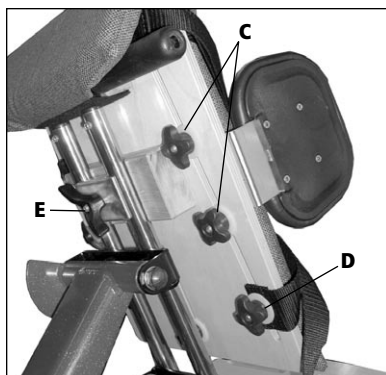

Figure 2
- Loosen knobs (C) and slide blocks out from under the clamp.
- Retighten knobs (See Figure 2).